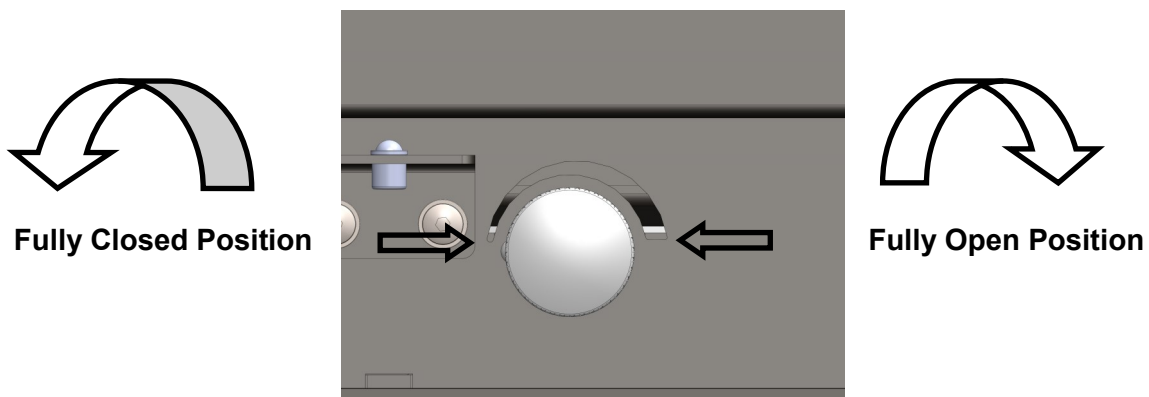
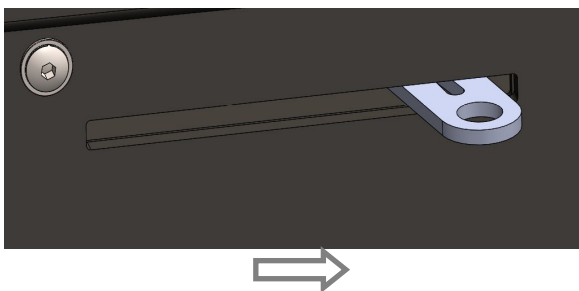
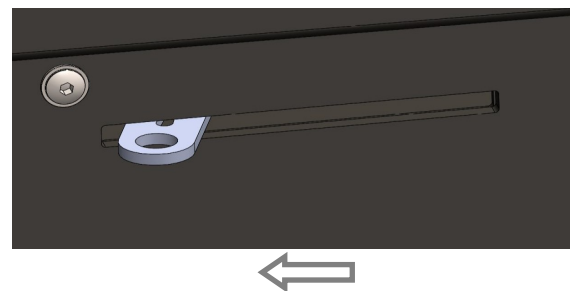

Fig. 1. Primary Air Control
Fig. 2. Fully Open Position
Fig. 3. Fully Closed Position
The control of the thermostatic damper is via a rotary knob, turning this knob clockwise raises the damper and therefore increases the amount of air entering the firebox. Again vice -versa, turning the knob anti-clockwise lowers the damper and reduces the amount of air, so in turn reducing the rate of burn, see Fig. 1.
The secondary air provides an overdraught of air together with supplying air in front of the glass viewing panel within the door assembly. This is know also as the air wash system. The air wash/secondary air inlet has an internal rotary plate with slots, housed inside the body of the appliance and is located to the left of the primary control. Sliding the control lever to the right as far as it will go, achieves the fully open position, see Fig. 2. Sliding it to the left will shut down the air inlet slots as shown in Fig. 3.
Solid fuel burns best with its air supply for combustion coming from underneath the fuel. To achieve this, the burn will be controlled by the primary air control thermostat (see Fig 1).
- 1) Set the air wash (secondary) (see Fig 2 & 3) air slider to about one quarter open and the primary air / thermostat fully open (see Fig 1).